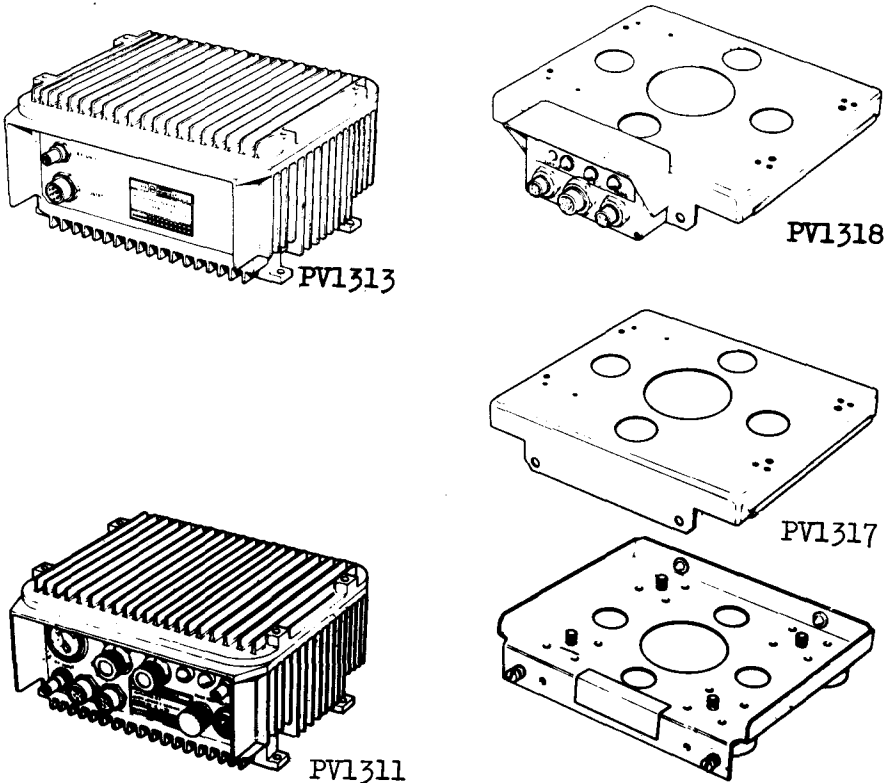

Fig.1 100W Equipment
2.1 The main items additional to the basic PRC320/1 30W station which are required to make up the 100W PRC320/1-100W station are illustrated in Fig.1.